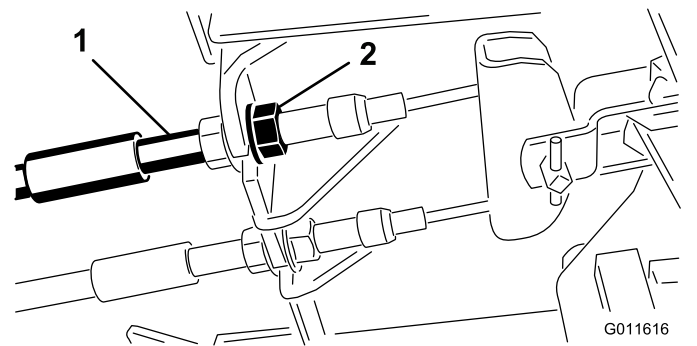

Figure 66
1. To reduce free travel of the brake pedals, tighten the brakes by loosening the front nut on the threaded end of the brake cable (Figure 66).